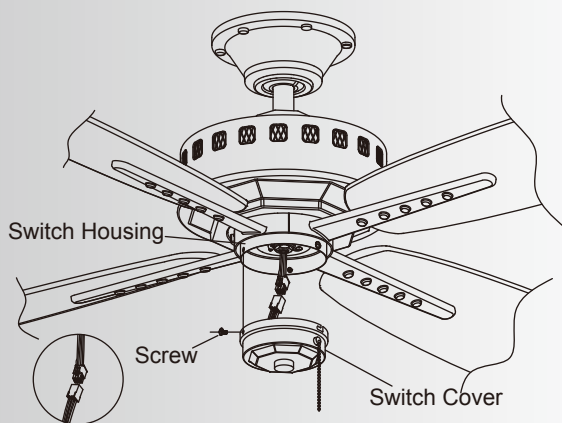

Fig. 19
Step 1. Remove 1 of the 3 screws on the edge of switch housing and loosen the other 2 screws (do not remove). (Fig. 19)
Step 2. The Square plastic wiring connector from the motor body and switch cover will only fit together one way. Match up the color on the side of each connector, then push them together until the snap engages. (Fig. 19)
Step 3. Tuck the new connections neatly into the switch cover. Align the key holes on the switch cover with the 2 screws on the edge of the switch housing. Turn switch cover until it locks in place at the narrow end of the key holes. Tighten the 2 screws and reinstall the third screw, making sure all three screws are tight and secure. (Fig. 19)